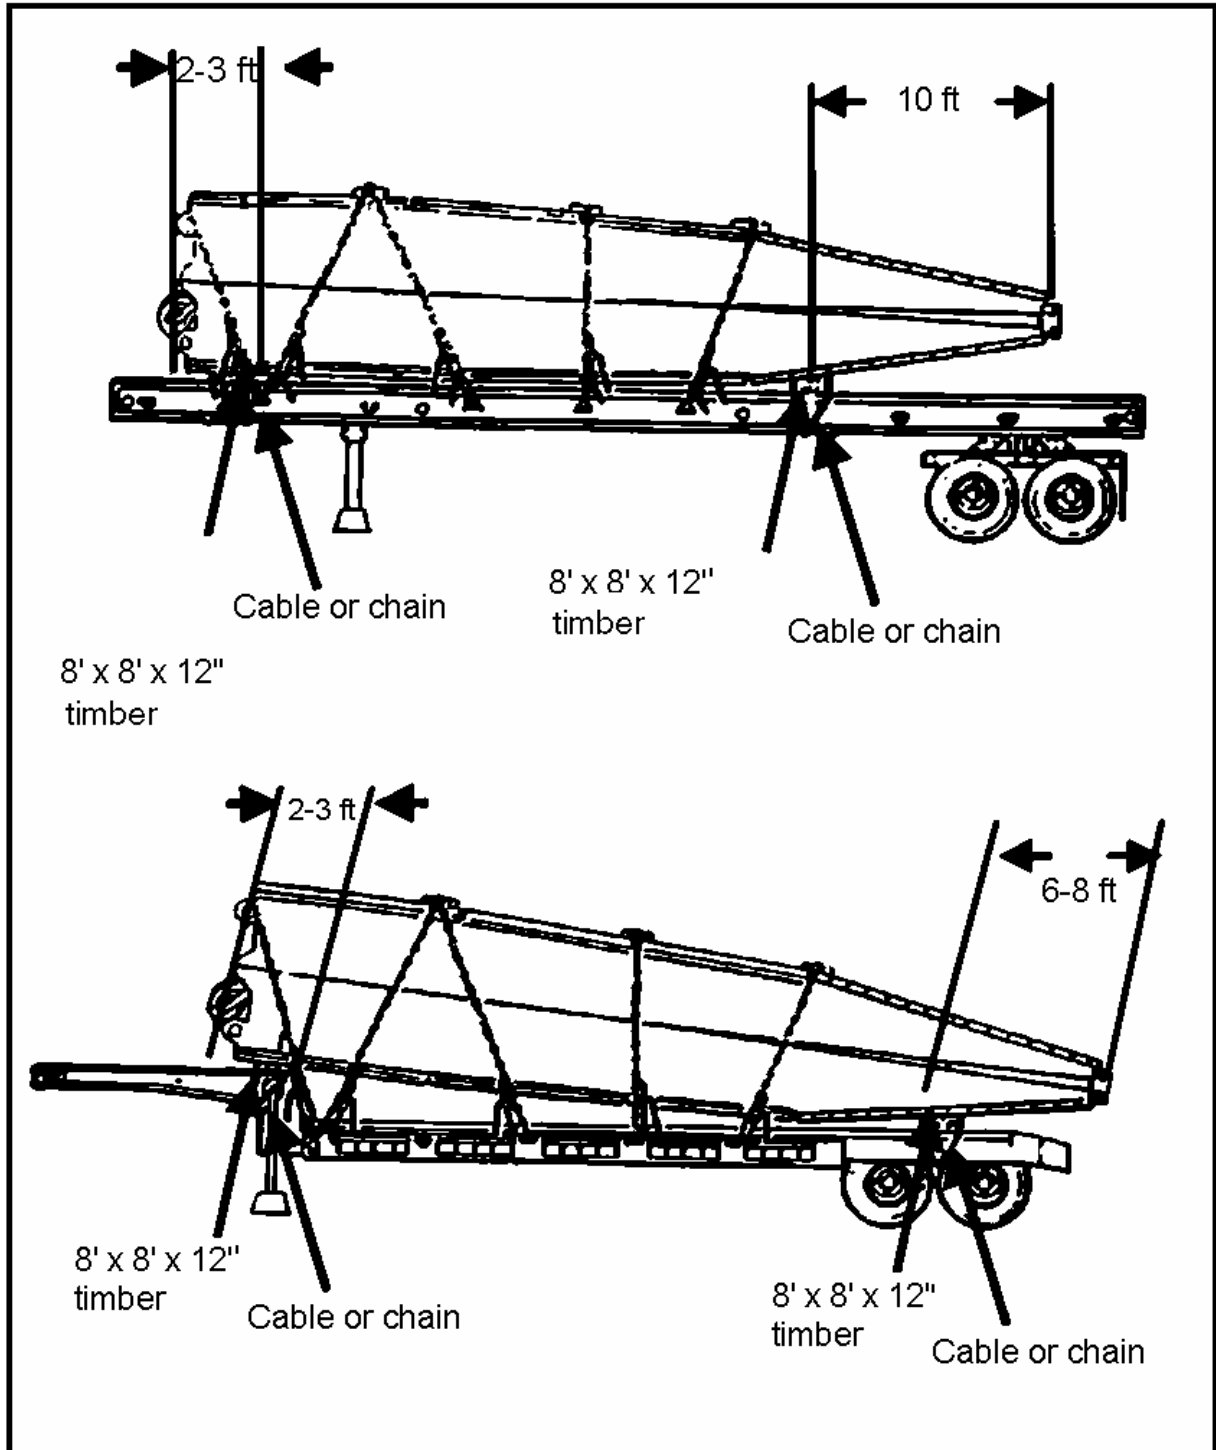

Figure 052-226-1060-3
6. Follow the instructions given by the TC. Assist the truck operator and the TC in securing the bridge to the trailer (Figure 052-226-1060-3).